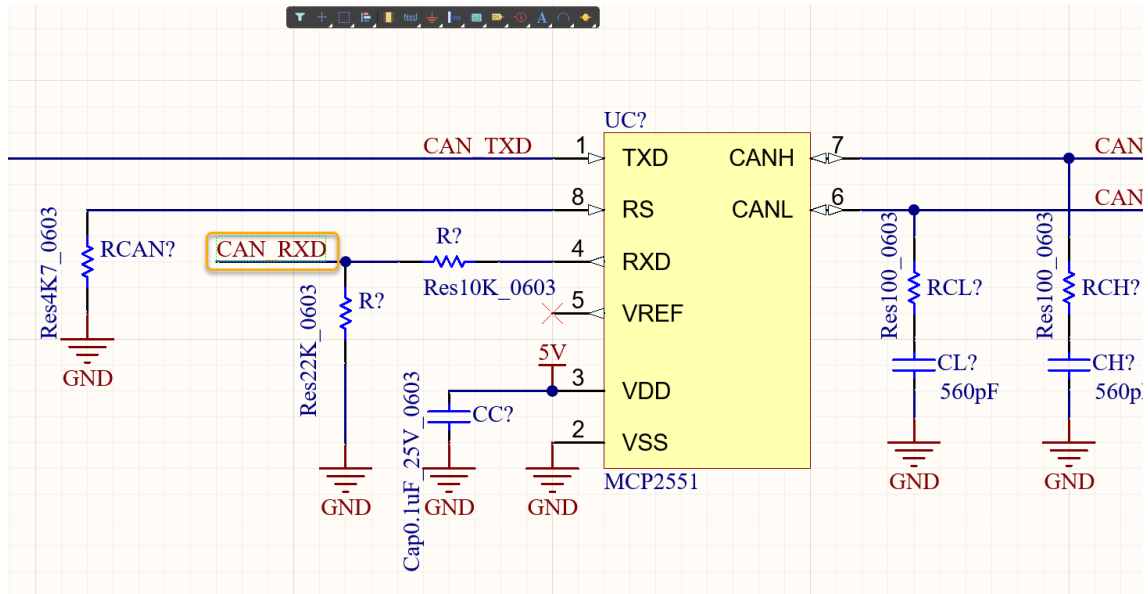

Figure 28. `CAN_RXD` Net Label placement
30. Go to **Place » Wire** and draw a short wire segment from R2 to the left, as shown in Figure 28 below.
32. Hit **Enter** to place the *Net Label* between the two resistors attached to UC2-4 (Pin 4 of UC2) as shown in Figure 28 below.